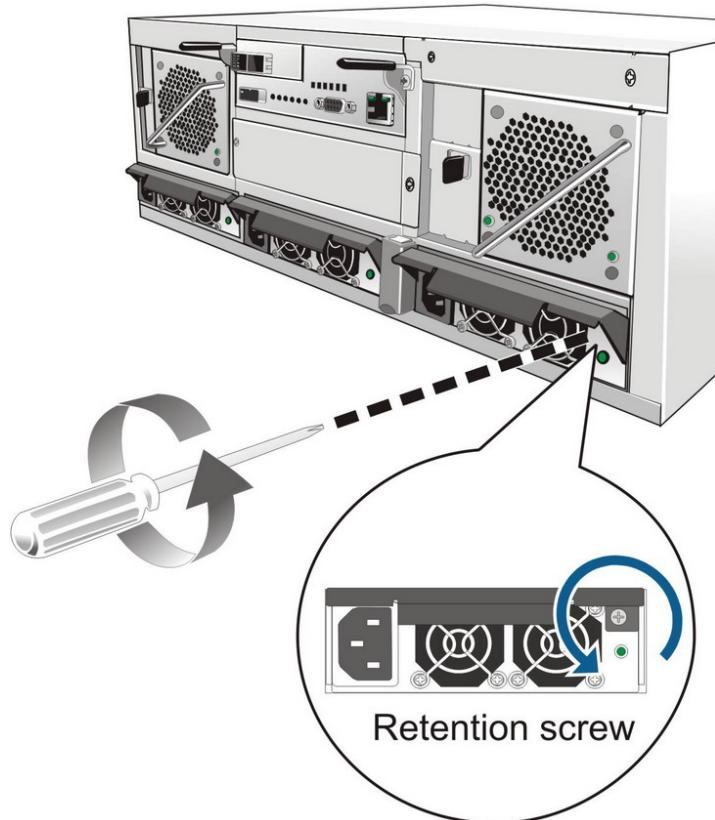

Figure 5-6: Removing the PSU Module
**Remove the PSU module** by pushing the extraction handle downwards. The extraction handle should gracefully disconnect the PSU from the backplane connectors. Once disconnected, gently pull the PSU module out of the system. If the system is mounted in a rackmount rack, use another hand to support its weight while removing the module. (See **Figure 5-6**)